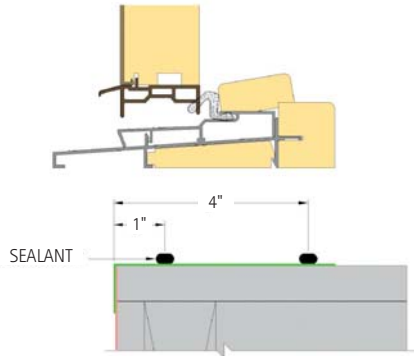
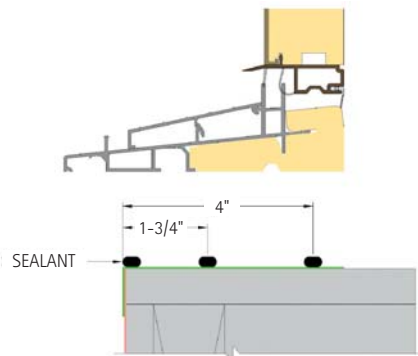

FIG. 9: OUT-SWING PATIO DOOR SILL
FIG. 10: 4-9/16" & 6-9/16" IN-SWING PATIO DOOR SILL
- a. Apply three 1/4" continuous beads of silicone across the entire width of the rough opening. Note that the locations are different for each door type. Figure 10 shows the silicone location for a 4-9/16" and 6-9/16" in-swing door. The bead location will be different for other jamb sizes. (Fig. 9, 10 & 11)